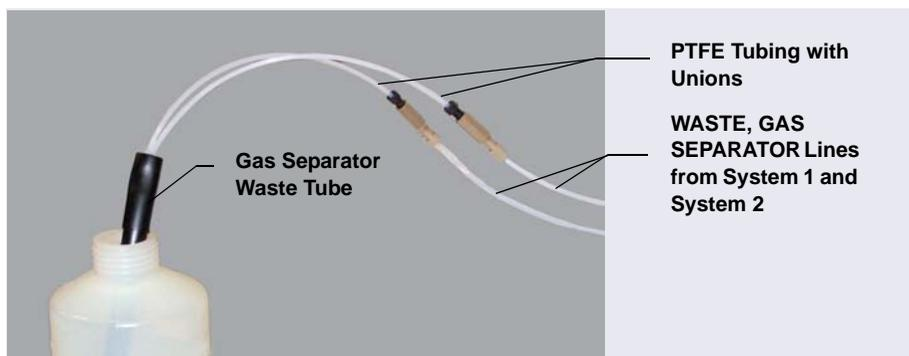

Figure 4-35. Gas Separator Waste Tube Installation
separator waste tube and the waste container are open to the atmosphere (see Figure 4-35).
4. Connect the **WASTE, GAS SEPARATOR** line from the suppressor or EG to one of the lengths of 3 mm (1/8 in) ID white PTFE tubing on the gas separator waste tube assembly (see Figure 4-35).
DO NOT CAP THE WASTE CONTAINER: The Dionex ICS-5000⁺ Eluent Generator (EG) and the electrolytic suppressors use an electrolytic process that results in the production of small amounts of oxygen or hydrogen gas. To ensure that the gas is not trapped in a closed container and allowed to concentrate, install a 1.3 cm (0.52 in) ID black gas separator waste tube (P/N 045460) in an uncapped waste container. Connect the **WASTE, GAS SEPARATOR** line to the waste tube (see Figure 4-35).